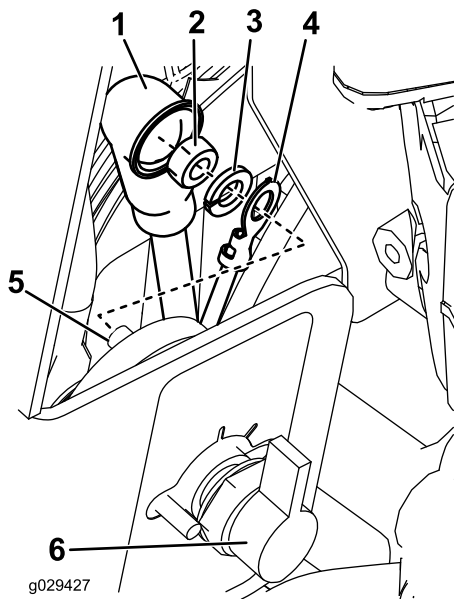

Figure 2
1. Behind the battery-disconnect switch on the right side of the machine, remove 1 insulator lug, nut, and lockwasher from the positive terminal (Figure 1 or Figure 2).
2. Using the hardware removed, attach 1 ring terminal of the wiring harness to the positive terminal (Figure 1 or Figure 2).